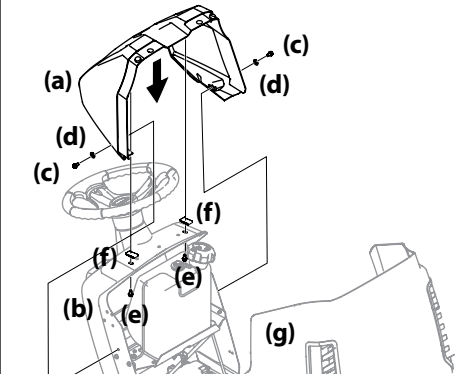

Figure 2-8
- If the dash shroud (a) was shipped loose, the hardware for attaching the dash shroud (a) is shipped installed in the dash (a) and the dash (b). Remove the two bolts (c) and washers (d) from the dash (g) and two bolts (e) and clips (f) from the dash shroud (b). See Figure 2-8.